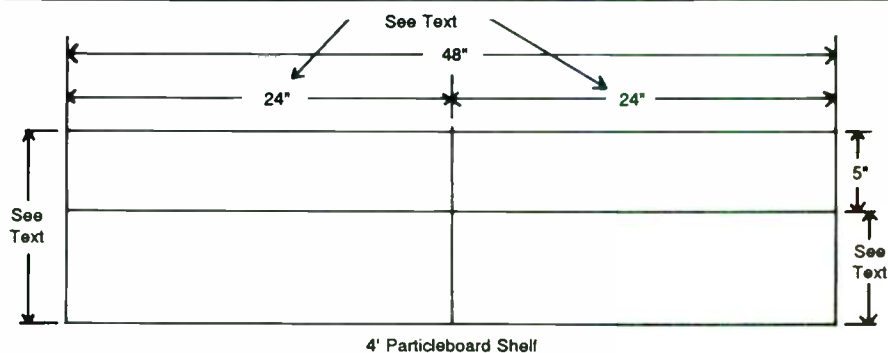

FIGURE 2: Cutting diagram for particleboard shelving.
**CUTTING OUT THE PIECES.** Cut both 4' boards in half to make four 2' pieces (Fig. 2). The pieces won't be quite 2' long because of the kerf (the width of the saw blade). Set your saw to 23 $\frac{3}{4}$ ", and run both pieces through it. That way they will be the same length.